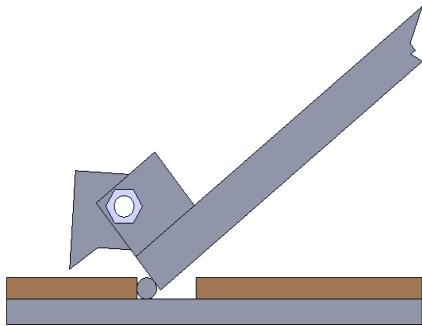

Fig.17
3. To raise and lock the lift: Press the button up till the lift is raised to the required height and the locks are in engaged (**See Fig.17**), then push release handle of the power unit, the lift would be locked.